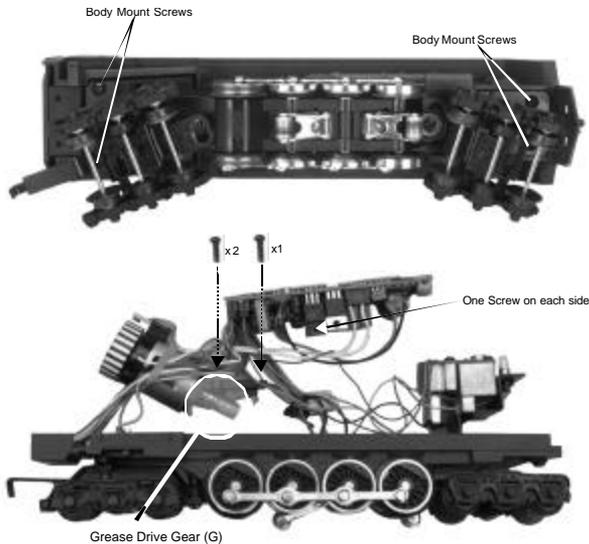
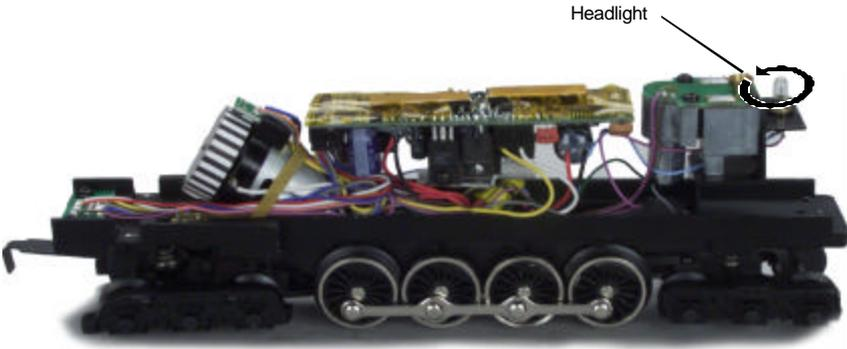

Figure 12. Locations of Body Mount Screws and Diagram for Greasing the Drive Gear
Figure 14. Changing the Locomotive's Headlight Bulb
1. Unscrew the chassis screws as shown in Fig. 12 and remove the boiler.
Remove the locomotive boiler from its chassis as shown in Figure 12. Once the body has been removed, rotate the headlight bulb counter-clockwise as seen in Figure 14 to remove.